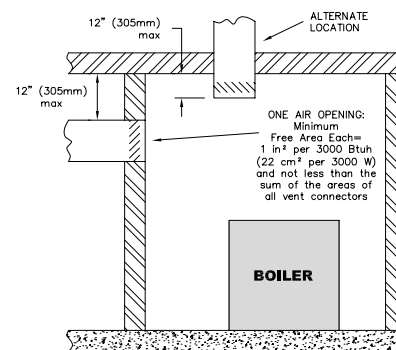

Figure 1.7: Air Openings – All Air from Outdoors through One Opening
b. **One Permanent Opening Method:** Provide one permanent opening beginning within 12 inches (305 mm) of the top of the space. The opening shall communicate directly with the outdoors, communicate through a vertical or horizontal duct, or communicate with a space that freely communicates with the outdoors. The opening shall have a minimum free area of 1 in² per 3000 Btu/hr of total rated input for all appliances in the space and not less than the sum of the cross-sectional areas of all vent connectors in the space. The gas-fired equipment shall have clearances of at least 1 inch (25 mm) from the sides and back and 6 inches (150 mm) from the front of the appliance. See Figure 1.7 for this arrangement.